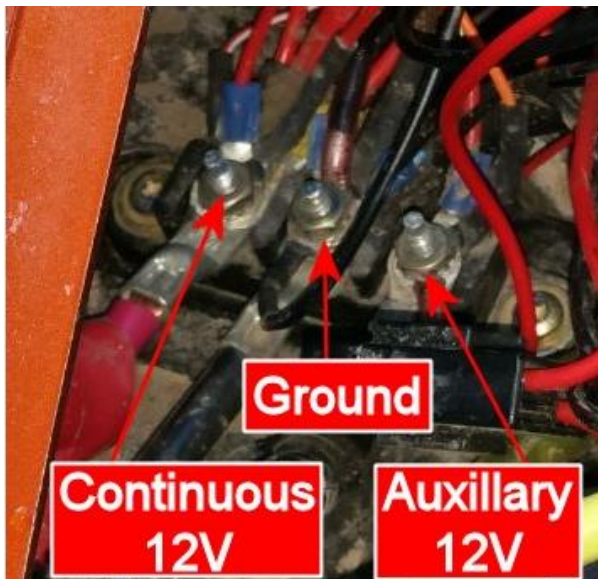

Figure 4a
- Mount the Red wire to the Auxillary power post as shown in Figure 4a
- Mount the Black wire to the Ground Post as shown in Figure 4a